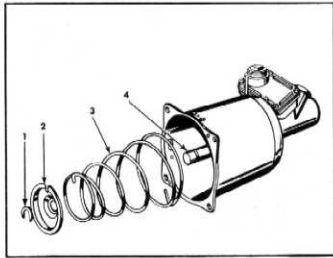

Fig. 9
13. Place return spring (3) over hydraulic plunger (4) with the hook at the large end of the spring in the space between the attaching bolt and a raised dimple at the end of the shell (fig. 9).